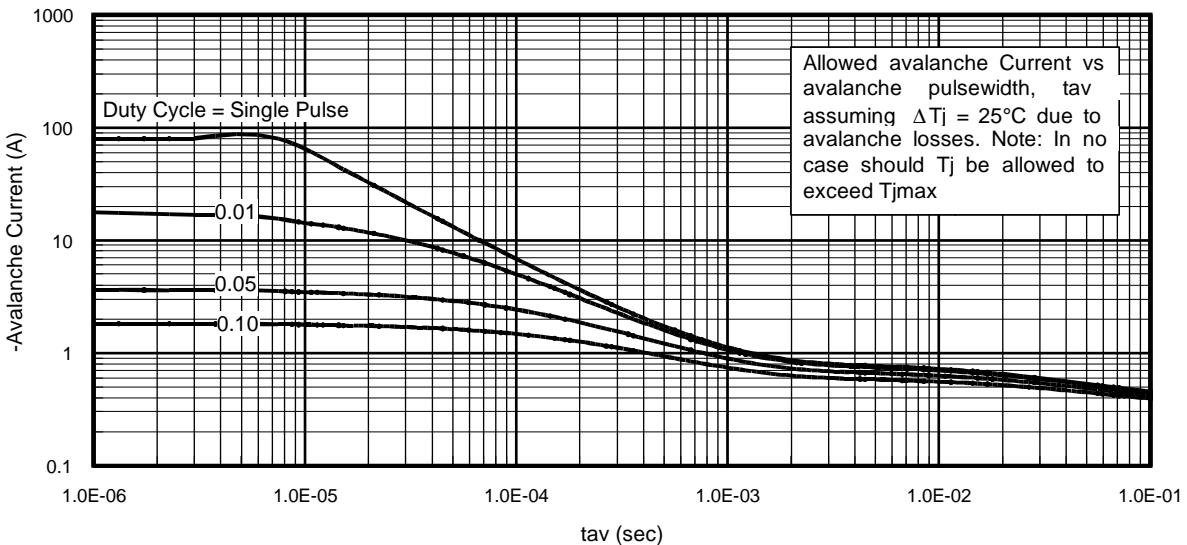

Fig 14. Typical Avalanche Current Vs. Pulsewidth
Notes on Repetitive Avalanche Curves , Figures 14, 15:
7. ΔT = Allowable rise in junction temperature, not to exceed $T_{j\max}$ (assumed as 25°C in Figure 14, 15).
- ① Repetitive rating; pulse width limited by max. junction temperature.
- ② Starting $T_J = 25^\circ\text{C}$, $L = 3.89\text{mH}$, $R_G = 25\Omega$, $I_{AS} = 10\text{A}$.
- ③ Pulse width $\leq 400\mu\text{s}$; duty cycle $\leq 2\%$.
- ④ R_θ is measured at T_J of approximately 90°C .
- ⑤ Limited by T_{jmax} . See Figs. 14, 15, 17a, 17b for repetitive avalanche information